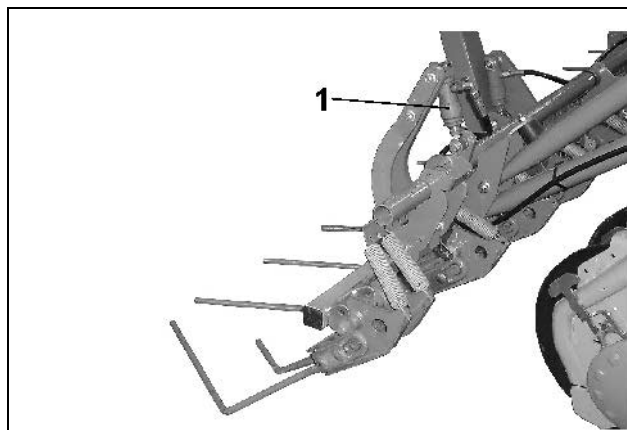
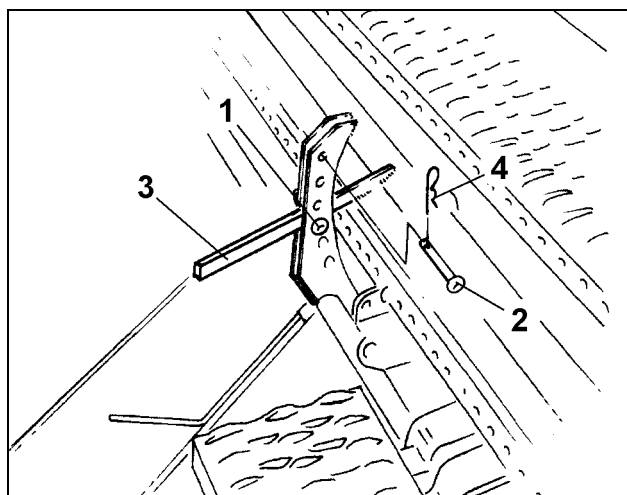

Fig. 88
Fig. 89
When changing from normal soil to heavy soil or vice versa, the coulter pressure is readjusted by a hydraulic ram (Fig. 88/1).
Two pins (Fig. 89/1 and 2) are placed as a stop for the lever (Fig. 89/3) in the setting segment. The lever, which is actuated by the hydraulic ram rests on the pin I (Fig. 88/1) when the hydraulic ram is without pressure and it stops on pin II (Fig. 89/2) when the hydraulic ram has been pressurised.
- Relieve the hydraulic ram (Fig. 88/1) from pressure.
- Insert pin II (Fig. 89/2) into a hole above the lever (Fig. 89/3) in the setting segment and secure by using a clip pin (Fig. 89/4).
- Pressurise hydraulic ram (Fig. 88/1).
- Insert pin I (Fig. 89/1) into a hole in the setting segment under the lever (Fig. 89/3) and secure by using a clip pin (Fig. 89/4).